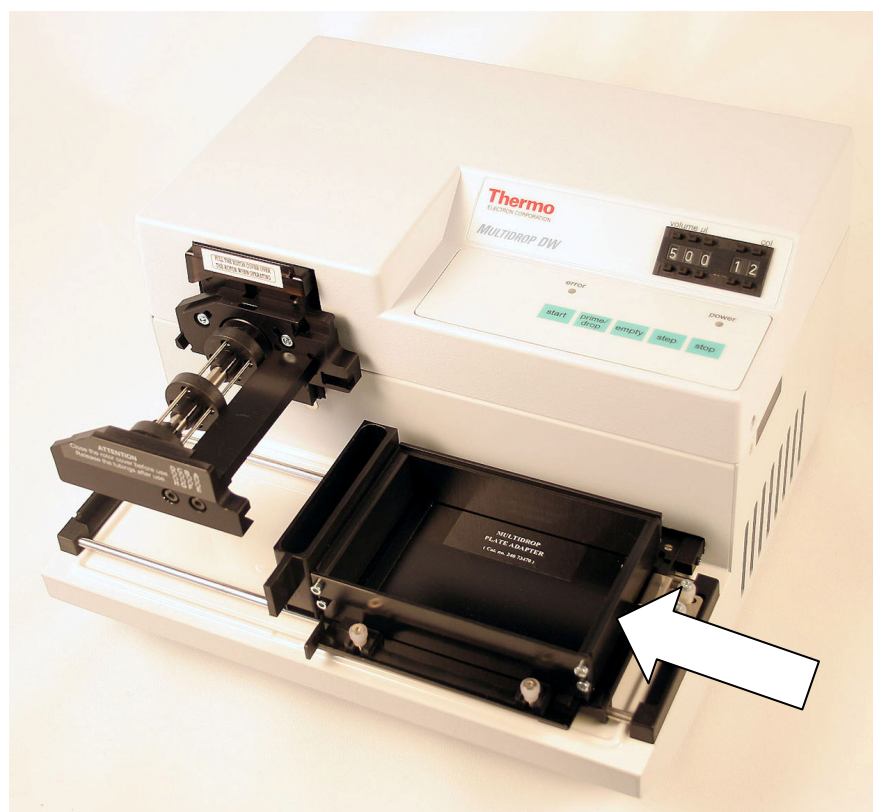

Fig. 6.10 Plate adapter for the 96-well plate inserted into the plate carrier
- First place the plate adapter for the 96-well plate into the plate carrier (*Fig. 6.10*).